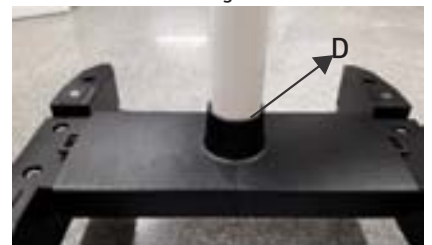

Fig 15
3. Make sure that during assembly of the column, ring (D) is fixed in place, as shown in Fig 15.